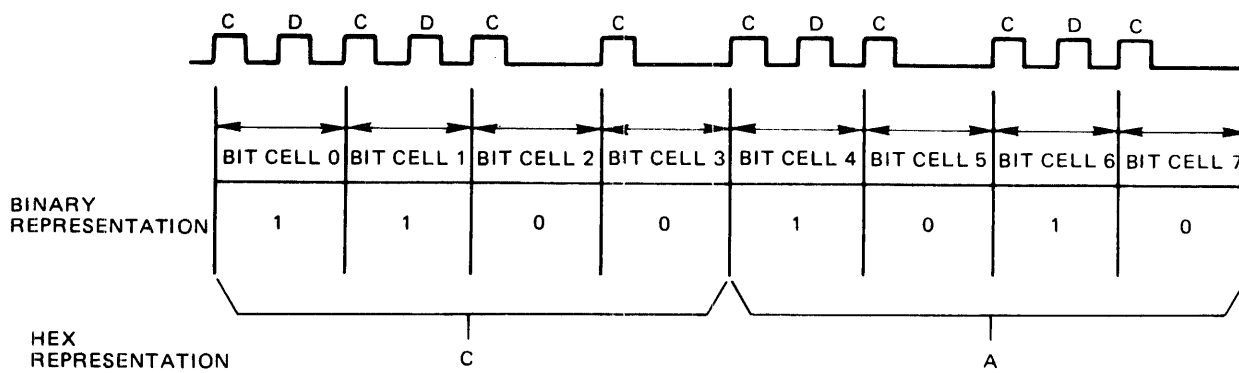

FIGURE 18. BIT CELL
**7.1** The SA 400 drive uses the double-frequency (2F) longitudinal non return to zero (NRZI) method of recording. Double frequency is the term given to the recording system that inserts a clock bit at the beginning of each bit cell time thereby doubling the frequency of recorded bits. This clock bit, as well as the data bit, are provided by the using system. See Figure 18.